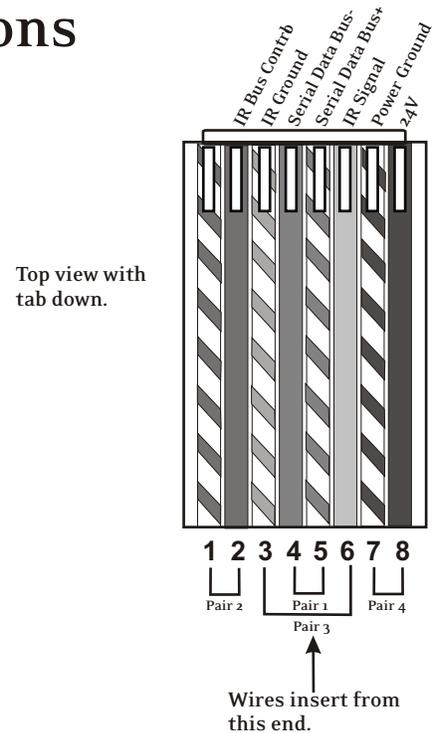

Fig. 1: EIA 568A wiring scheme for Cat 5 Cable
- ✎ 2. Untwist the wires and fan them out individually. Arrange the wires into the correct color scheme as shown in Fig. 1.